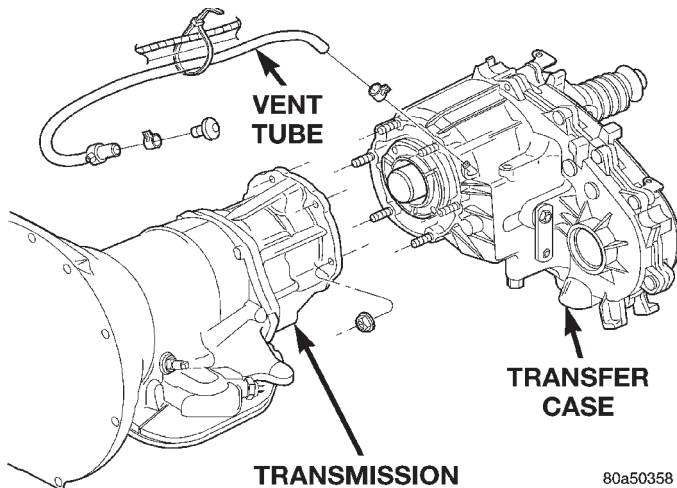

Fig. 4 Transfer Case Mounting
- (1) Mount transfer case on a transmission jack. Secure transfer case to jack with chains.
- (2) Position transfer case under vehicle.
- (3) Align transfer case and transmission shafts and install transfer case on transmission.
- (4) Install and tighten transfer case attaching nuts to 35 N·m (26 ft. lbs.) torque (Fig. 4).
- (5) Connect vehicle speed sensor wires, and vent hose.
- (6) Connect indicator switch harness to transfer case switch. Secure wire harness to clips on transfer case.
- (7) Align and connect propeller shafts. Tighten shaft attaching bolts to 19 N·m (170 in. lbs.) torque.
- (8) Fill transfer case with Mopar Dextron II fluid.
- (9) Install rear crossmember, or skid plate. Tighten crossmember bolts to 41 N·m (30 ft. lbs.) torque.
- (10) Remove transmission jack and support stand.
- (11) Connect shift rod to transfer case range lever.
- (12) Adjust transfer case shift linkage.